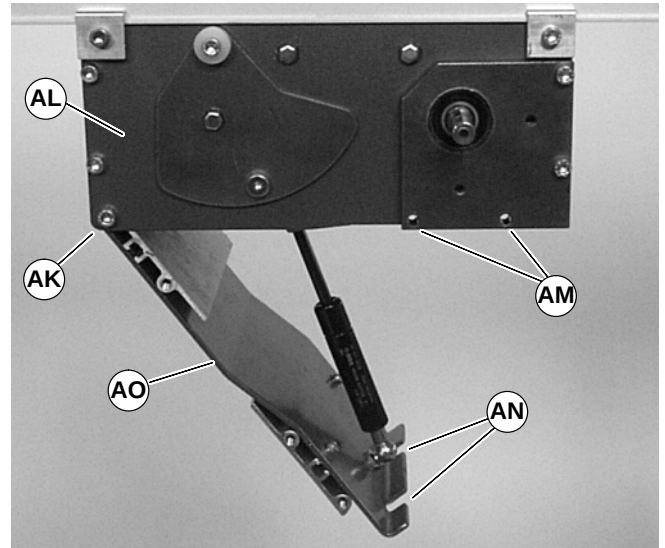

Figure 16
3. Loosen corner screws (AK of Figure 16), on each side of the drive module (AL).